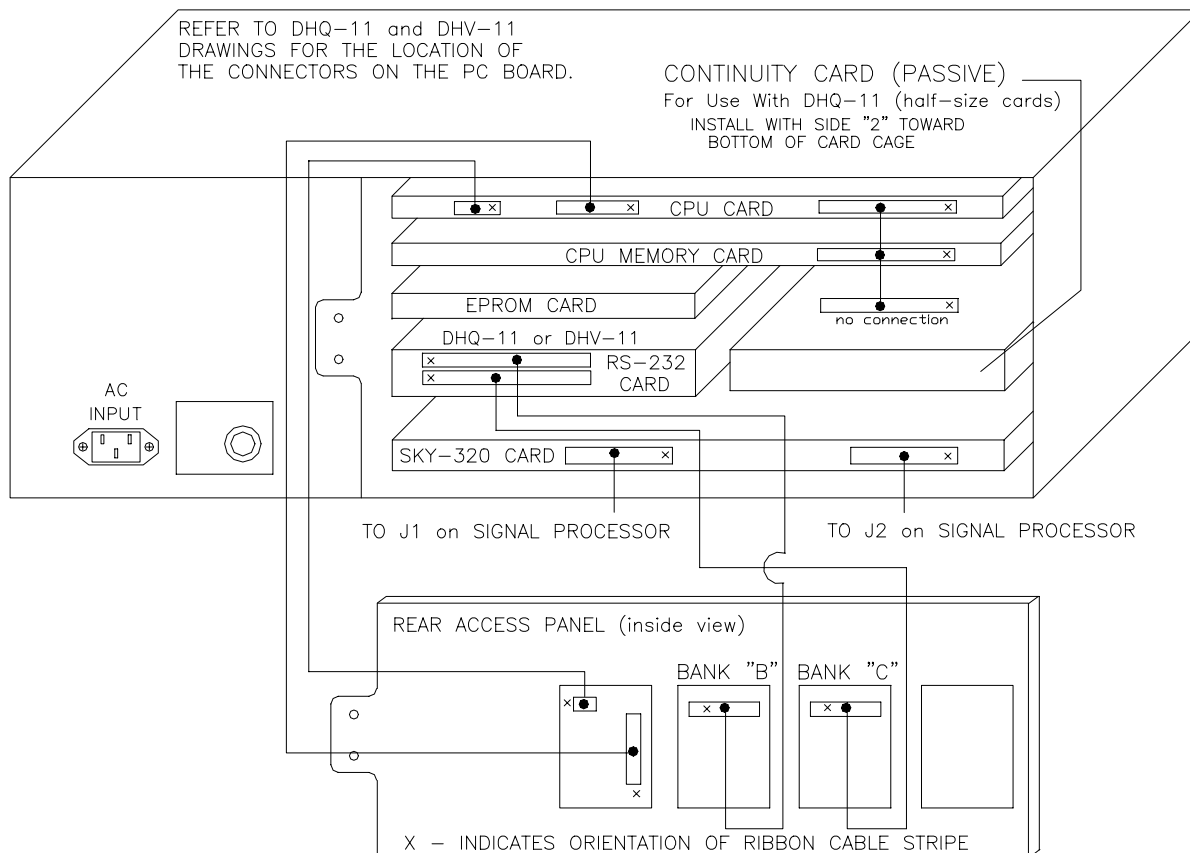
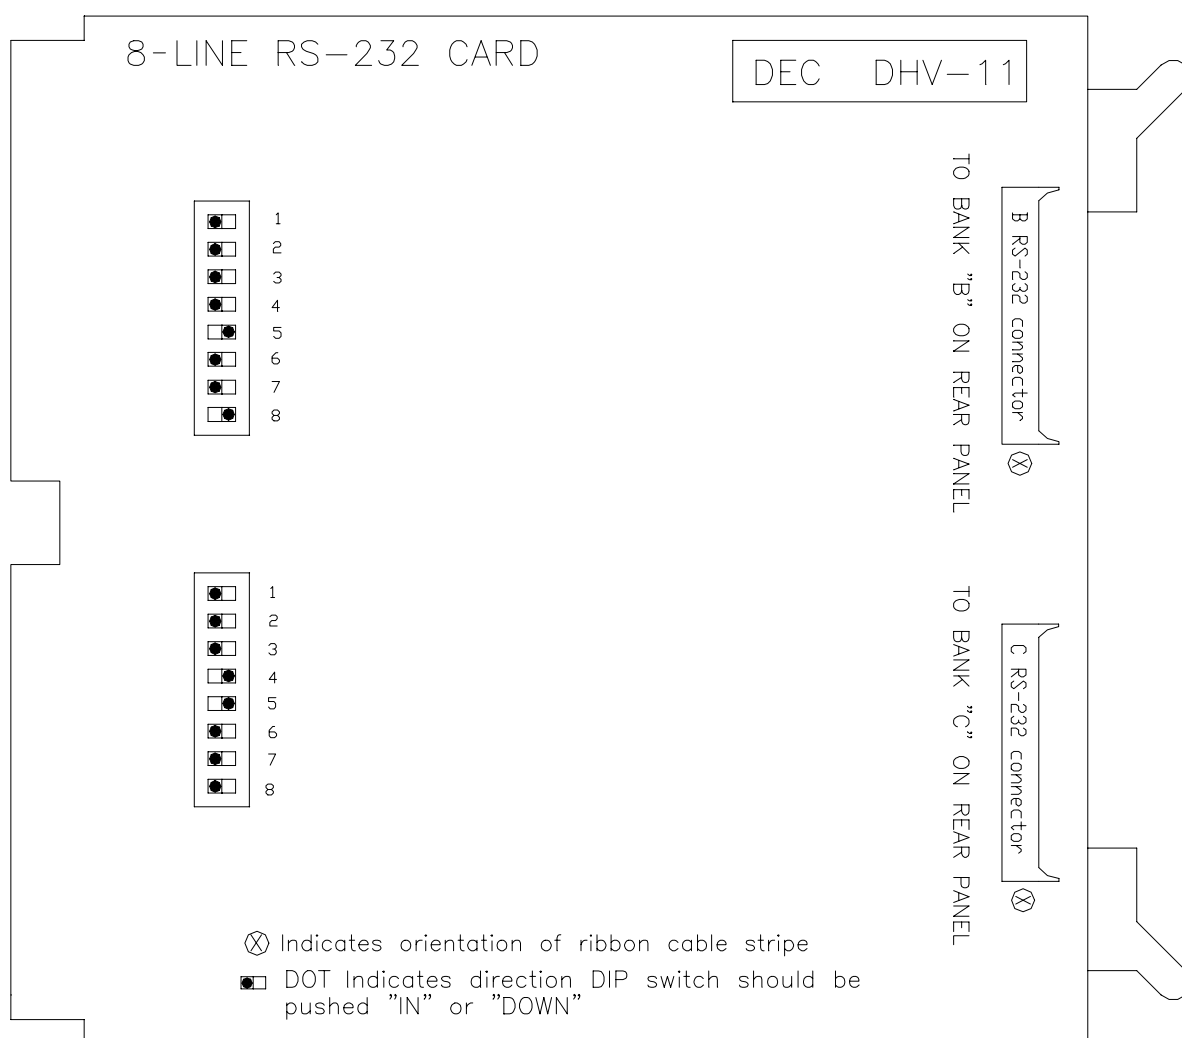
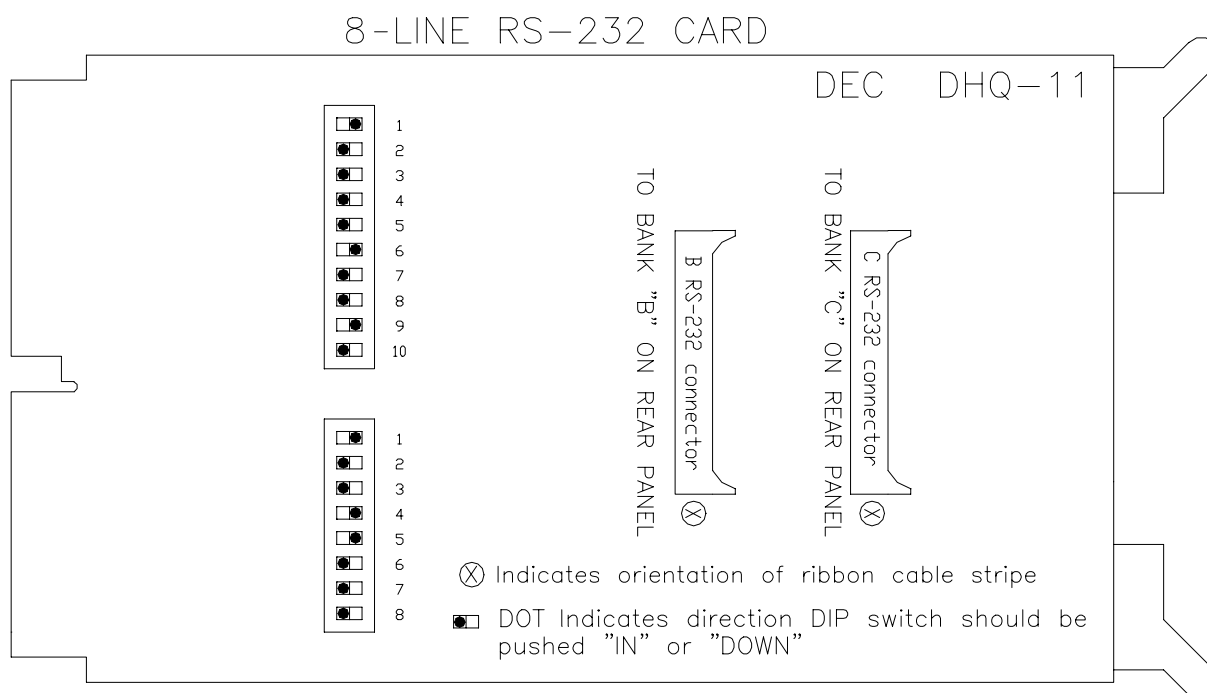

Figure 4-15 Data Processor Card Cage Layout
Figure 4-17 Model DHV-11 8-Port RS-232 Interface Card
Figure 4-18 Model DHQ-11 8-Port RS-232 Interface Card
The functionality of the profiler radar continues to evolve adding new capabilities to the basic system configuration. To accommodate new enhancements, upgrades must be made to the DP firmware. The DP firmware is a set of EPROM chips located on the EPROM board inside the Data Processor (see Figure 4-15 for location). There are two different versions of Data Processor firmware currently in use. Appendix E provides the current distribution of firmware versions at all network profiler sites. The basic differences between the firmware versions are described below in Table 4-1.
card cage containing the Data Processor circuit cards. Refer to Figure 4-15 for layout of the card cage.
4. Partially remove the full-size cards by disengaging the locking mechanisms on the ends of the cards and re-seat them firmly. Partially remove half-size cards (without locking mechanisms), and re-seat them to ensure that the left side of each card is firmly against the guides on the left side of the card cage (as shown in Figure 4-15).
There are two versions of the interface card that are functionally identical but physically dissimilar. These are designated Models DHV-11 and DHQ-11, the older and newer version, respectively. Refer to Figure 4-17 and Figure 4-18 for the layout and DIP switch settings for these cards. The DHV-11 is a full-width card, and the DHQ-11 is half-width card. The DHQ-11 card requires the installation of a passive Continuity card to operate. Refer to Figure 4-15 for the installed location of the Continuity card. The Continuity card has no active circuitry, but provides circuit traces which route necessary bus signals on back-plane of the card cage.
2. Locate and remove the RS-232 Interface Card from the card cage (see Figure 4-15).
1. Configure the DIP switches on the new card as indicated in Figure 4-17 or Figure 4-18, as appropriate.
2. Reconnect the ribbon cables to the new interface card taking care to re-install the cables in their proper locations on the card. Refer to Figure 4-15 to identify Bank "B" and "C" cables.
2. Locate and remove the EPROM Card from the card cage (see Figure 4-15).